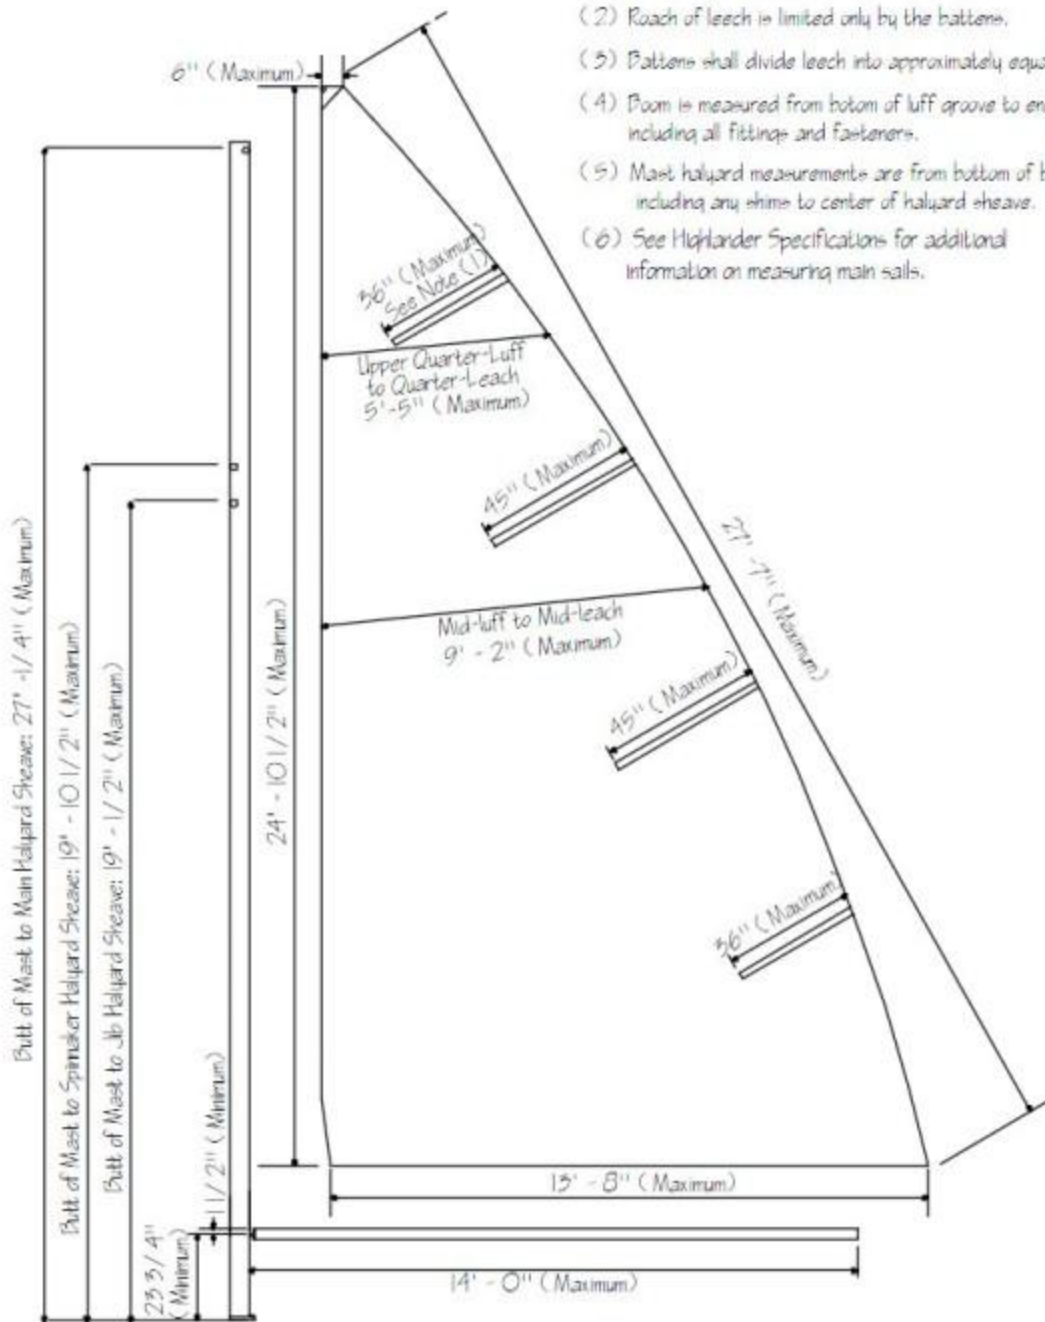
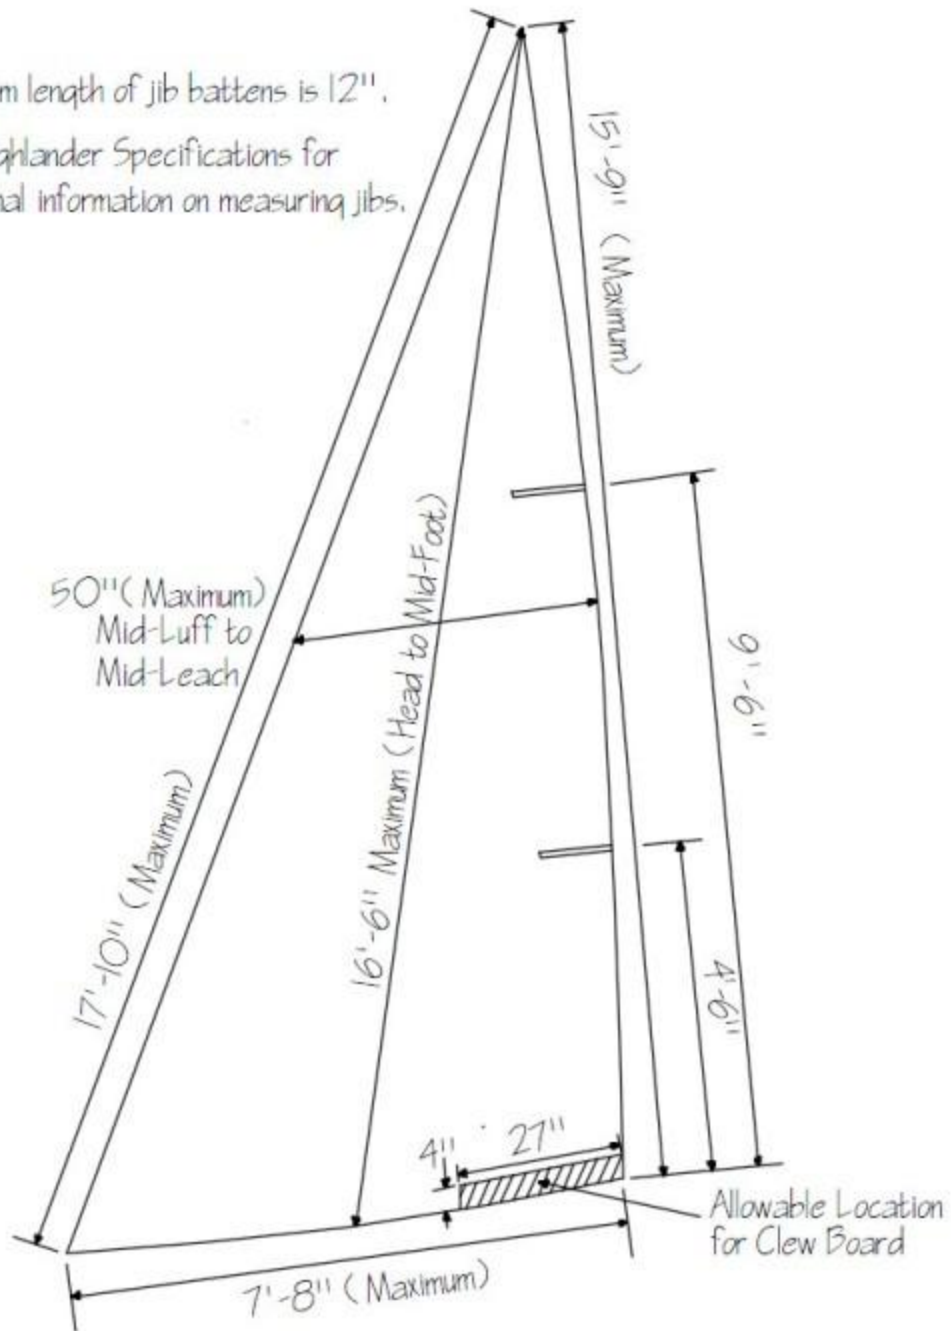
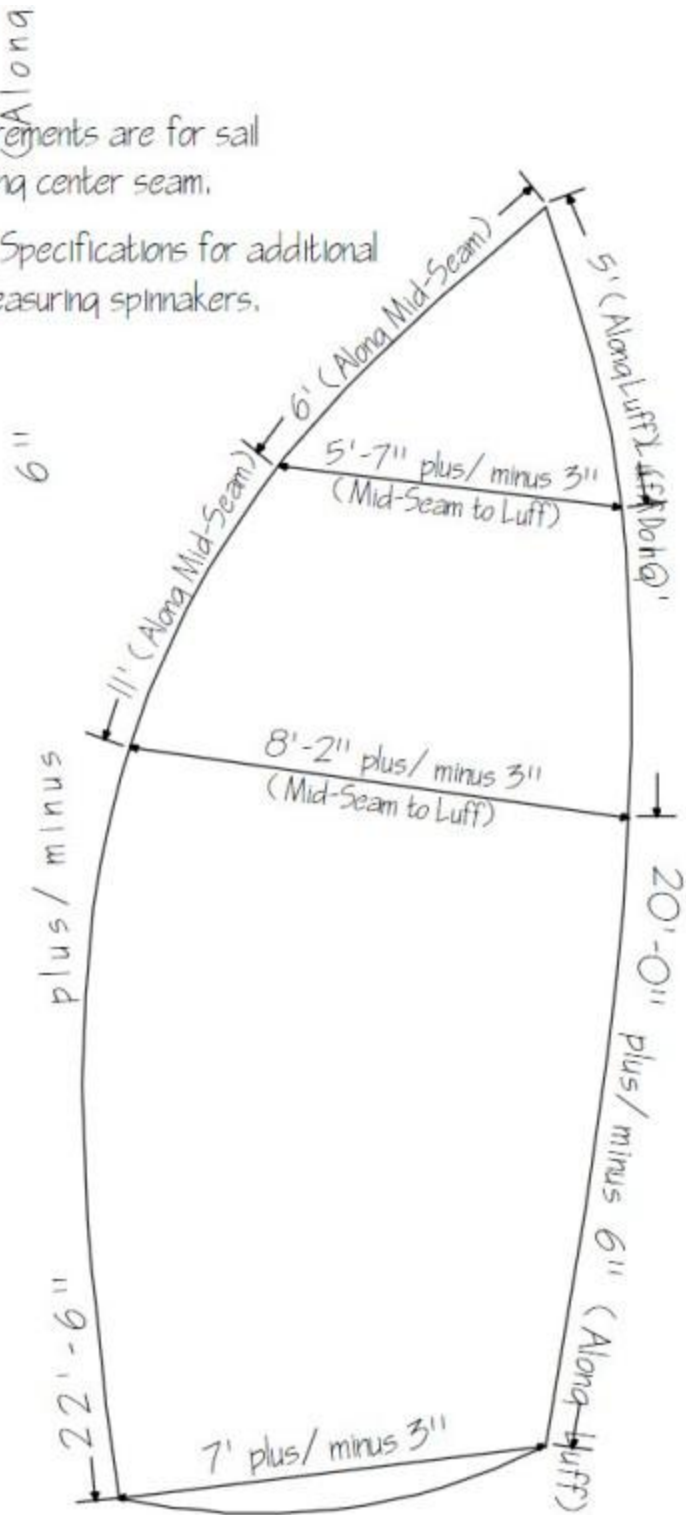

Figure 4. Mast Boom and Mainsail Measurements
Figure 5. Jib Measurements
Figure 6. Spinnaker Measurements
- iii All measurements shall be made with no tension is applied to the sail, but the cloth shall be smoothed out except that the luff and foot of the main and jib and the sides and foot of the spinnaker shall be measured under a five (5) pound tension.
- iii There are no minimum measurements. Maximum measurements are as shown on official drawings (Figure 4).
- iv Up to four battens as shown on the official drawings (Figure 4) are permitted. The use of a full-length upper batten on mainsails a minimum of three years old is permitted. The location and angle of the full-length batten shall be the same as that of the original batten. The full-length top batten pocket may be installed on the opposite side of the original pocket, but only one batten may be used at any given time. The full-length batten shall be installed in a manner that will not change the curvature of the sail, as manufactured.
- v Placement and size of windows are optional providing that the total area not exceed twenty (20) square feet (change made at 2006 AGM).
- iii There are no minimum measurements. Maximum measurements are as shown on official drawings (Figure 5).
- iv Placement and size of windows are optional providing that the total area not exceed four (4) square feet.
- v Up to two battens as shown on the official drawings (Figure 5) are permitted.
- vi A clewboard of any material is permitted in the jib, which shall be located as shown on the official drawings (Figure 5).
- vii A minimum number of five (5) snaps or hanks equally spaced along 80 percent of the luff must attach the jib to the forestay.
- iii Dimensions and tolerances are as shown on the official drawings (Figure 6).